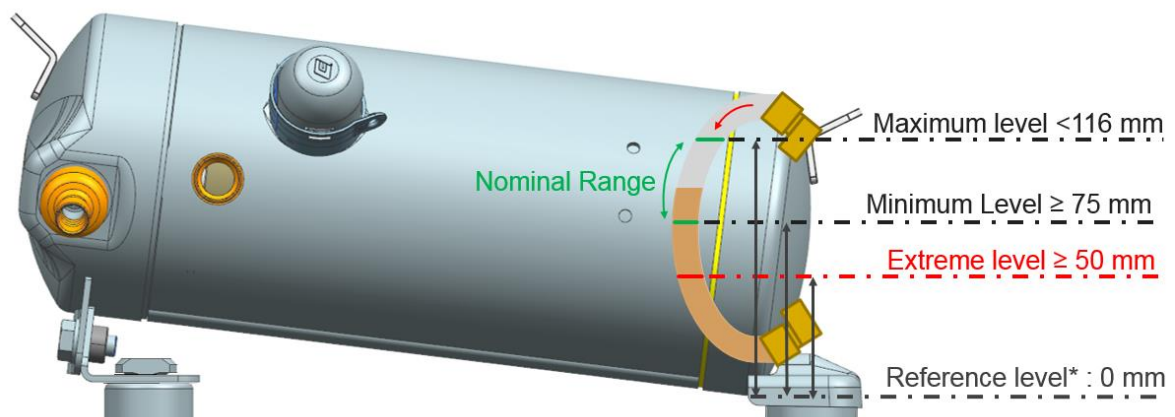

Figure 3: Acceptable oil level between 116 mm and 75 mm
All YBVH* compressors are equipped with a positive displacement twin oil pump. The oil sump is located on the lower end of the compressor housing – see right-hand side of the compressor housing in **Figure 3**. The oil level in the oil sump does not reflect the oil filling in the rest of the compressor housing.
Figure 3 shows the acceptable oil level between 116 mm and 75 mm.
- Before first compressor start, mark the 116-mm maximum oil level, the 75-mm minimum level and the 50-mm extreme minimum level. The distance to the markings can be measured from the lower end of the compressor housing – see **Figure 3**.